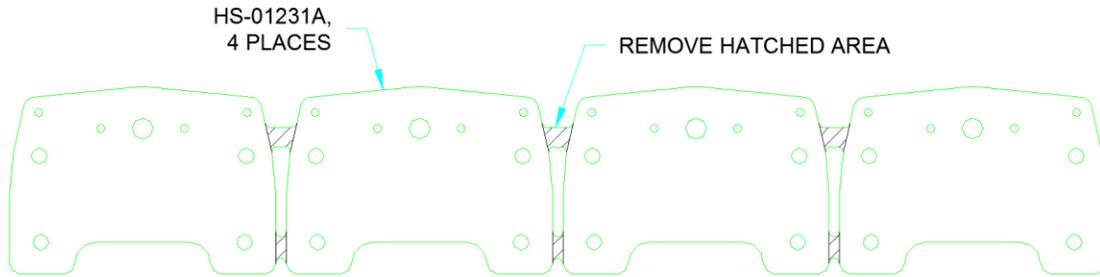

FIGURE 5: SEPARATING THE STABILATOR HINGE ANGLE
Step 18: Separate HS-01231A Stabilator Hinge Angle into four parts. See Figure 5.